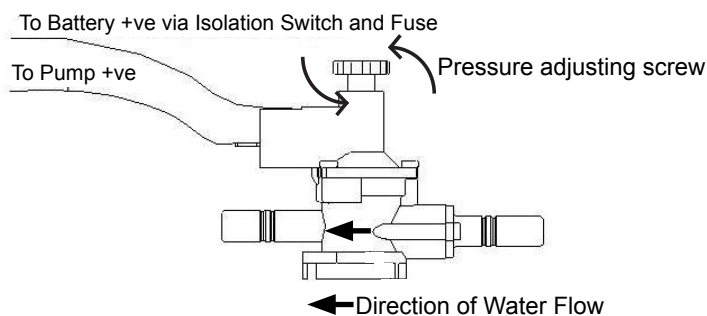

Figure 2: Connecting Microswitch Terminals
Step 2 Tighten the adjusting screw clockwise until the pump comes on (see Fig. 2).